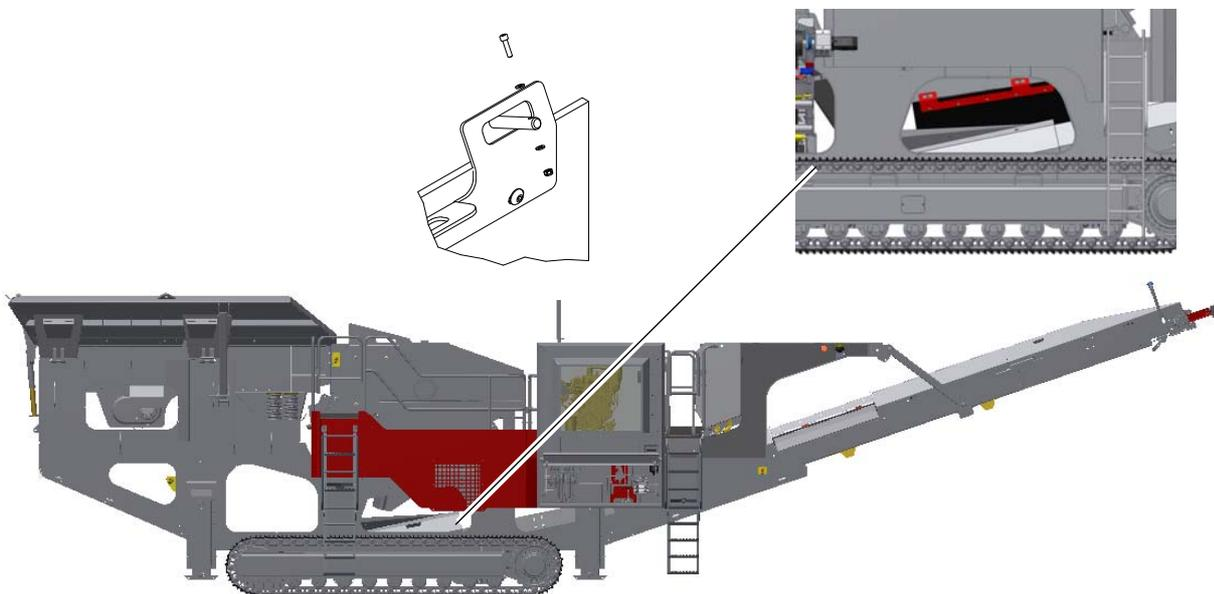

Figure 4-3: Main Conveyor Jaw Crusher Box - Rubbers
12. Refer to **Figure 4-3: Main Conveyor Jaw Crusher Box - Rubbers**, install jaw side rubbers as follows: